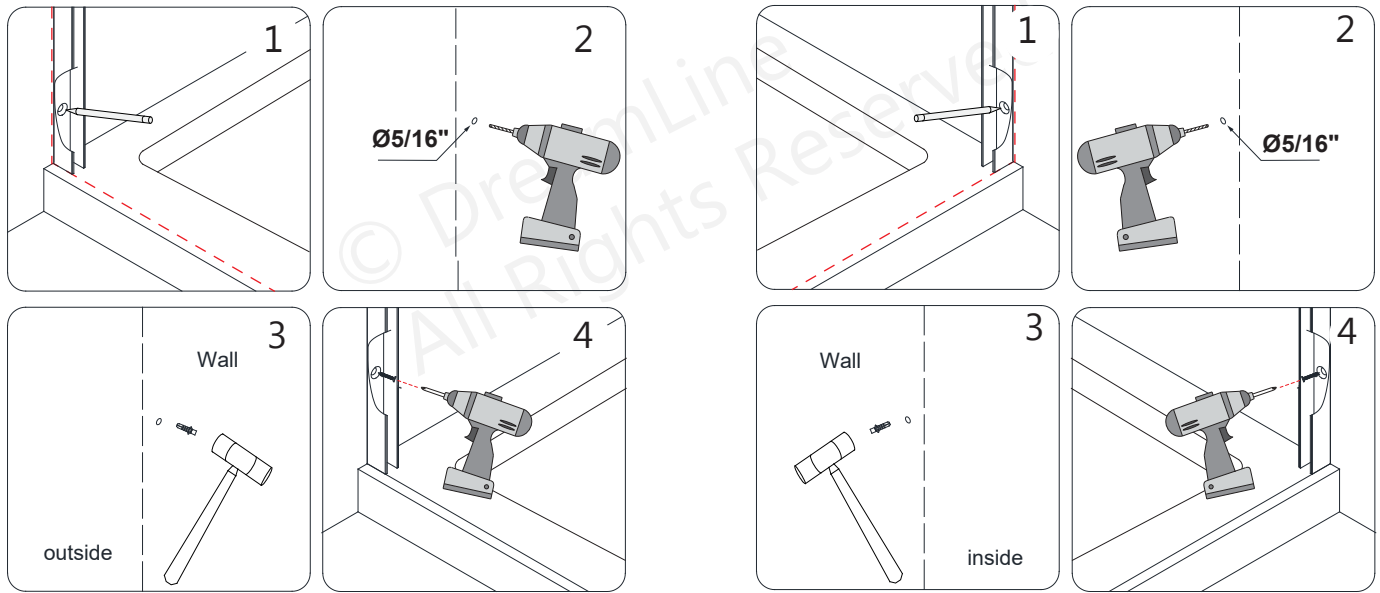

Fig 3
3. Mark the drilling holes on the wall through the predrilled holes in the **Stainless Steel U-Channels (#11)**. Drill the holes in the wall using a **Ø5/16" (8mm)** drill bit and insert the **5/16" Wall Anchors (#07)**. Run a bead of Waterproof silicone along the back of the **Stainless Steel U-Channels (#11)**. Fasten the **Stainless Steel U-Channels (#11)** to the walls using the **Pan Head Screw ST4.2×40 (#08)**. (Fig 3)